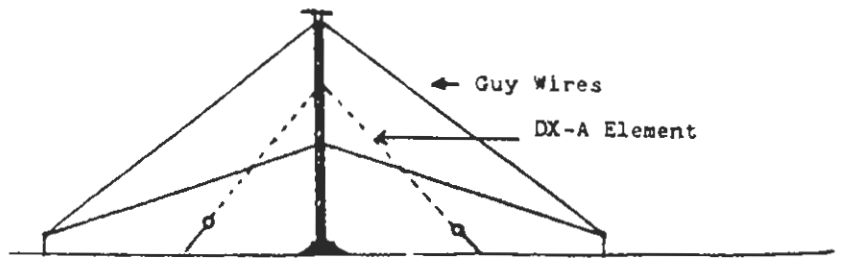
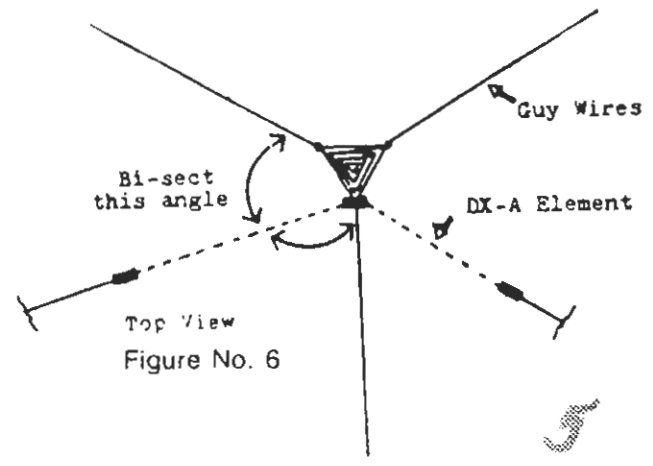

FIGURE No. 5
FIGURE No. 6
*The DX-A was originally designed as a "free space" antenna (as almost all antennas are). As such, it is possible that the introduction of your DX-A into a tower system employing multiple guy wires or other attached wire antennas may cause a slight detuning of the DX-A antenna. This condition is rarely seen in actual practice, but the chance for it does exist, just as it would for any other antenna of comparable design! The mere presence of other wires or wire antennas can result in direct R.F. coupling which will upset the DX-A antenna system. Refer to Figures No. 5 and No. 6. The point of bracket attachment on the tower should be
as far removed as possible from the attachment point for any guy wire system. The angle of slope for the elements of the DX-A should be such that they are not the same angle as made by any guy wires or other wire antennas (see Figure No. 5)! To help lessen interaction between the DX-A and other wires, it is wise to provide as much separation as possible (see figure NO. 6). THE DX-A wire elements may be so arranged as to dissect the angles made by guy wires. Guy wires should be electrically broken by the inclusion of insulators. In some few instances, it may be necessary to employ the use of a modest antenna tuner to allow some solid state transmitters to fully load.